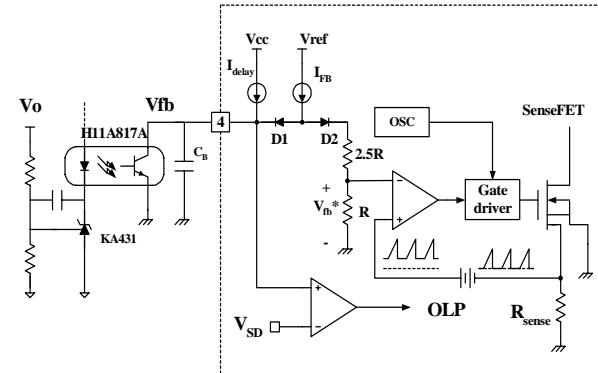

Figure 5. Pulse width modulation (PWM) circuit
2. Feedback Control: FSDM1265RB employs current mode control, as shown in Figure 5. An opto-coupler (such as the H11A817A) and shunt regulator (such as the KA431) are typically used to implement the feedback network. Comparing the feedback voltage with the voltage across the R_{sense} resistor in addition to the offset voltage makes it possible to control the switching duty cycle. When the reference pin voltage of the KA431 exceeds the internal reference voltage of 2.5V, the H11A817A LED current increases, thereby pulling down the feedback voltage and reducing the duty cycle. Typically this happens when the input voltage is increased or the output load is decreased.
2.1 Pulse-by-pulse current limit: Because current mode control is employed, the peak current through the Sense-FET is limited by the inverting input of PWM comparator (V_{fb}^*) as shown in Figure 5. Assuming that the 0.9mA current source flows only through the internal resistor ($2.5R + R = 2.8\text{ k}\Omega$), the cathode voltage of diode D2 is about 2.5V. Since D1 is blocked when the feedback voltage (V_{fb}) exceeds 2.5V, the maximum voltage of the cathode of D2 is clamped at this voltage, thus clamping V_{fb}^* . Therefore, the peak value of the current through the Sense FET is limited.